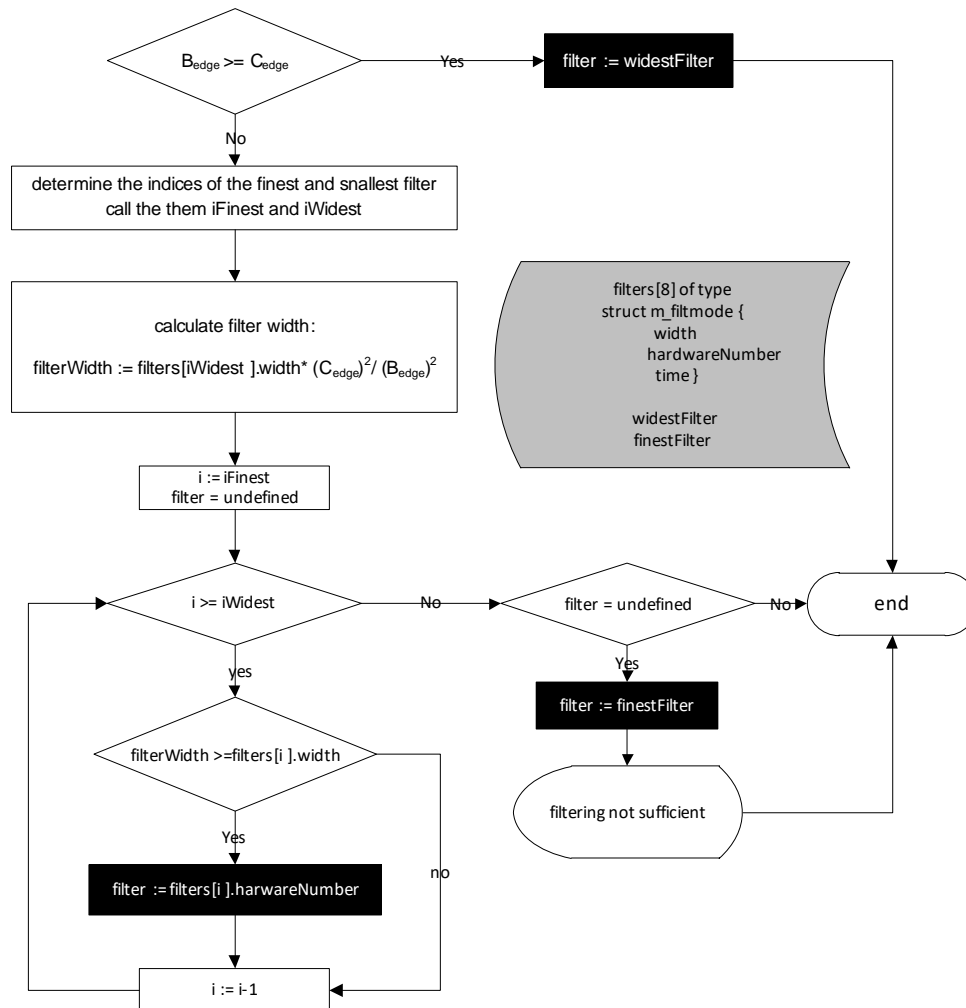

Figure 28 - Filter adjustment
- Currently there are 8 filters which widths are defined in kHz. Higher kHz means smaller width (more waves within a distance X). We have to choose one of these filters. Figure 28 shows how this is done.